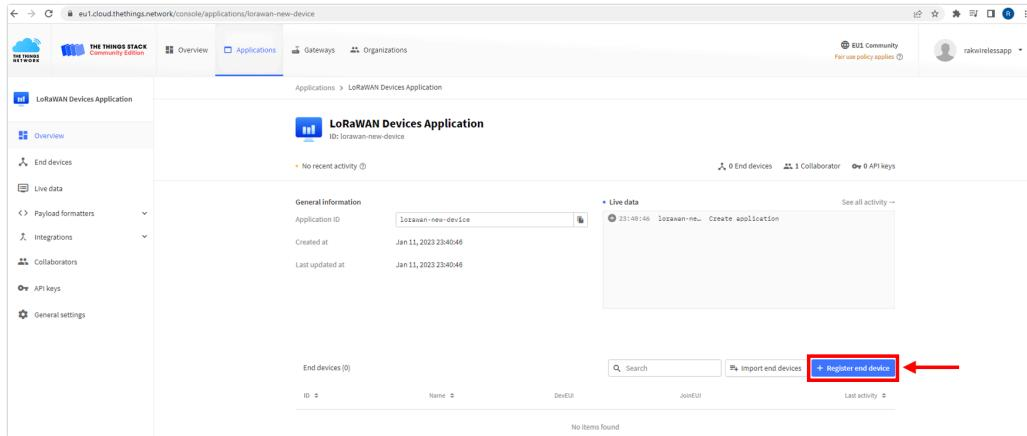

Figure 38: Register end device
1. Go to your application console to register a device. To start adding an OTAA end-device, click **+ Register end device**, as shown in Figure 38.